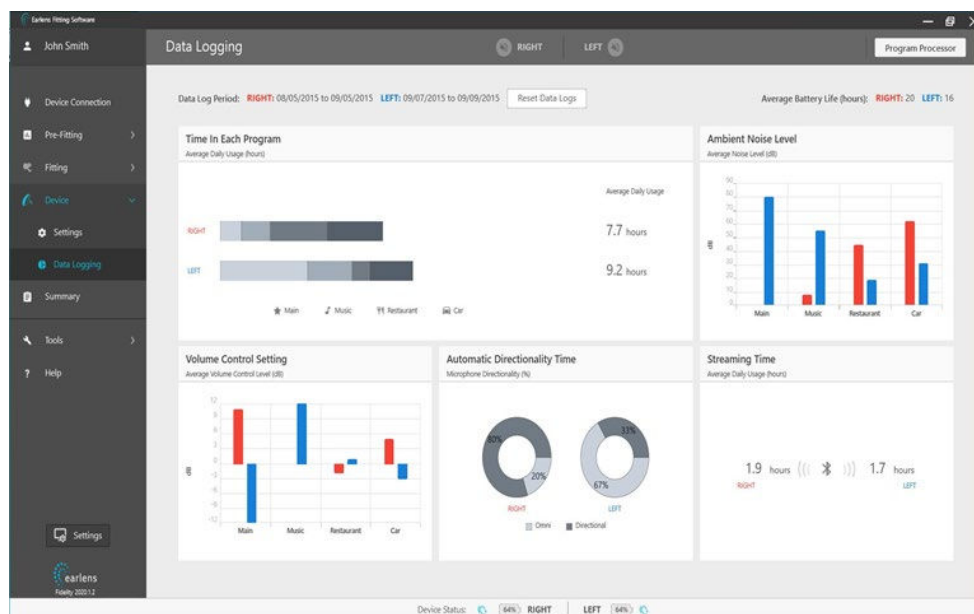

Figure 19. Data Logging screen
- **Data Logging:** View patient usage data (Figure 19).